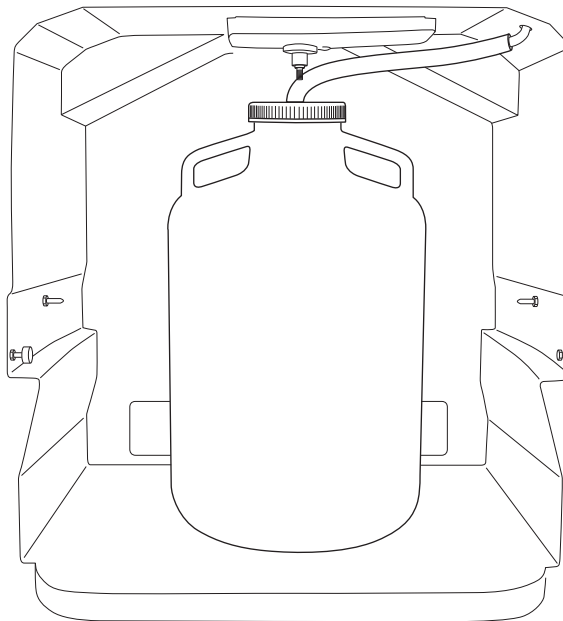

Figure 2-8 One 20 liter bottle configuration with discharge tube through the bottle cap
6. Feed the discharge tube into the hole (PE only) (see Figure 2-8).